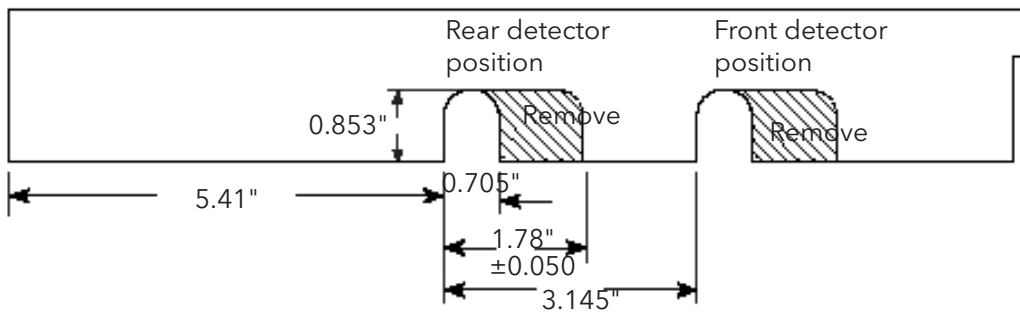

Figure 3.2. Preparing the Top-Right GC Cover
7. Cut a hole in the top-right GC cover (Figure 3.2).